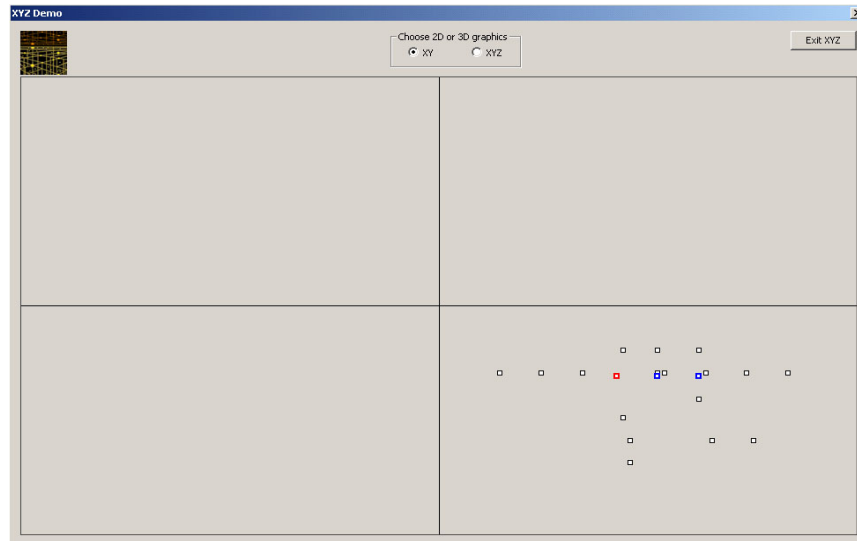

Figure 6. XYZ Demonstration
2. XYZ Demo — As shown in Figure 6, the XYZ Demo application displays the location of the board on two different dimensions (2D and 3D) based on movement of the board. To move the boxes on the display that represent the X, Y, and Z axes, pick up the PC_Radio and move it to different angles.